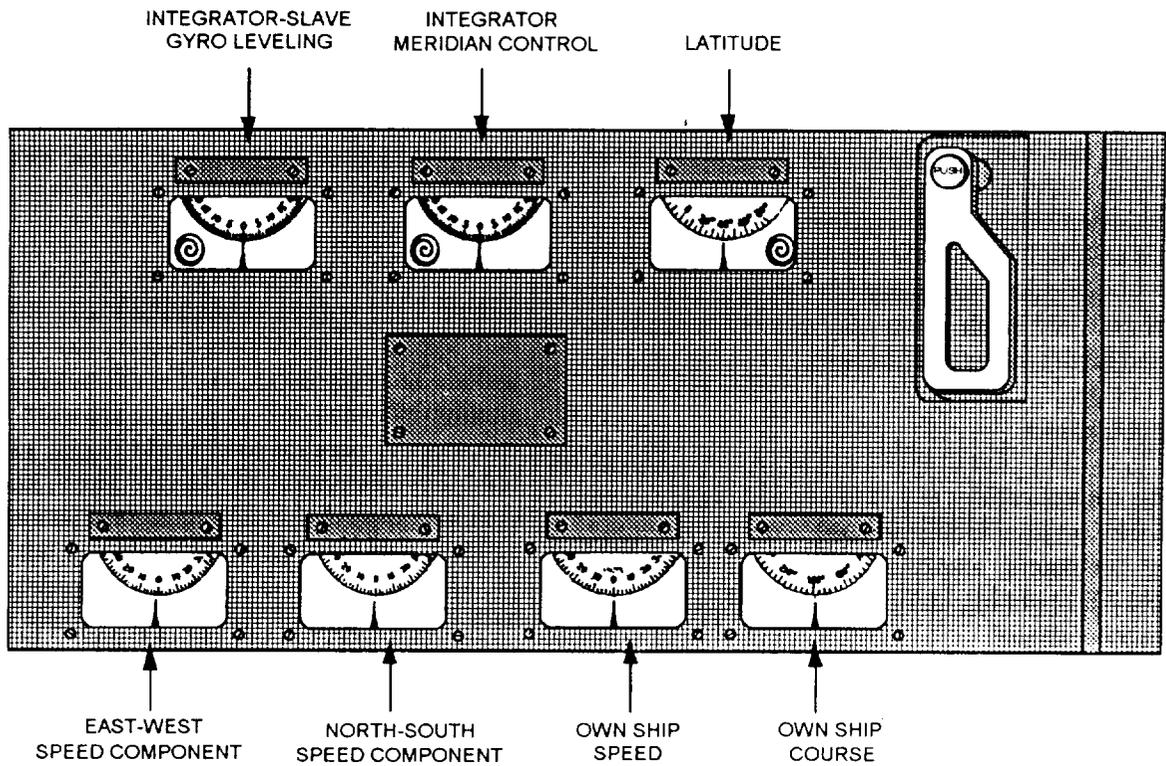

Figure 4-23.—Computer indicators.
**COMPUTER INDICATOR PANEL.**— Located below the control panel, and inside the cabinet, are seven computer assemblies for computing data for the systems. The computer indicator panel (fig. 4-23) consists of seven windows. A dial is visible behind each window to indicate the data being computed by its associated computer assembly. These assemblies are discussed later under the control system in which they are used.